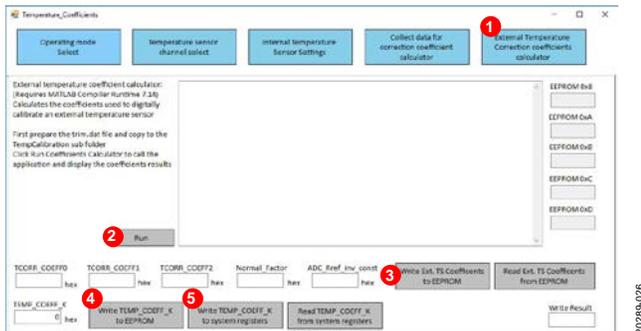

Figure 26. Calibration Window for External Temperature
1. Click **External Temperature Correction coefficients calculator** to open the calibration window for the external temperature sensor (Label 1 in Figure 26).
3. Click **Run** (Label 2 in Figure 26) and the coefficients display in the text boxes. A successful calculation displays the coefficients on screen.
4. Click **Write Ext. TS Coefficients to EEPROM** (Label 3 in Figure 26).
5. Enter the value for **TEMP_COEFF_K** and click **Write TEMP_COEFF_K to EEPROM** (Label 4 in Figure 26) and **Write TEMP_COEFF_K to system registers** (Label 5 in Figure 26) to program the memory. TEMP_COEFF_K adds an optional temperature offset. See the ADA4558 Hardware Reference Manual for further details.